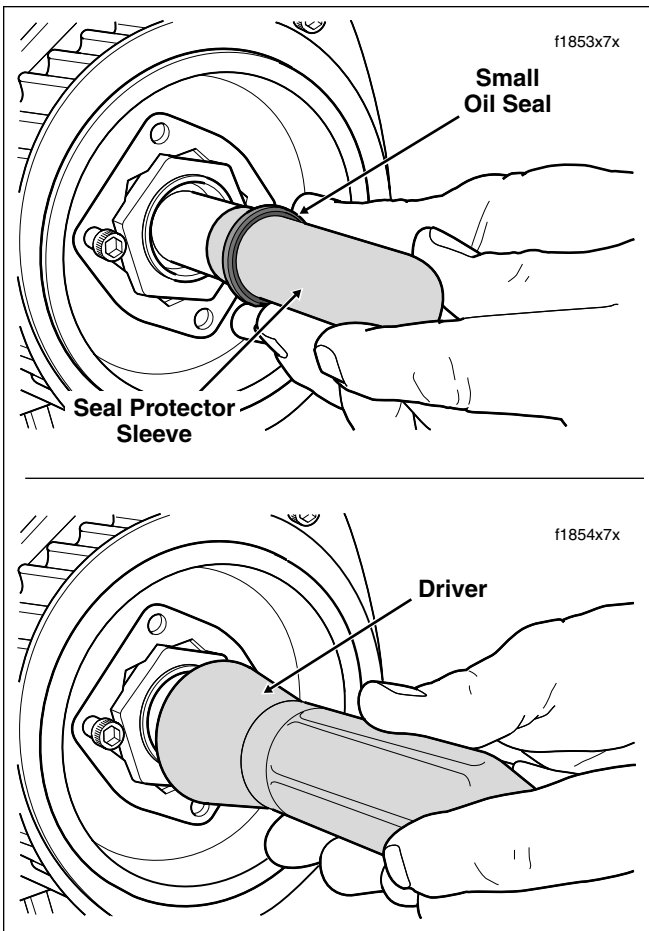

Figure 7-48. Install Small Oil Seal Using Seal Protector Sleeve and Driver
- e. Squarely seat the oil seal on the seal protector sleeve with the lip garter spring facing the transmission case. See upper frame of Figure 7-48.
- g. Using the driver, hand press oil seal into the main drive gear. See lower frame of Figure 7-48. A rubber mallet may be used to lightly tap the driver, if necessary.